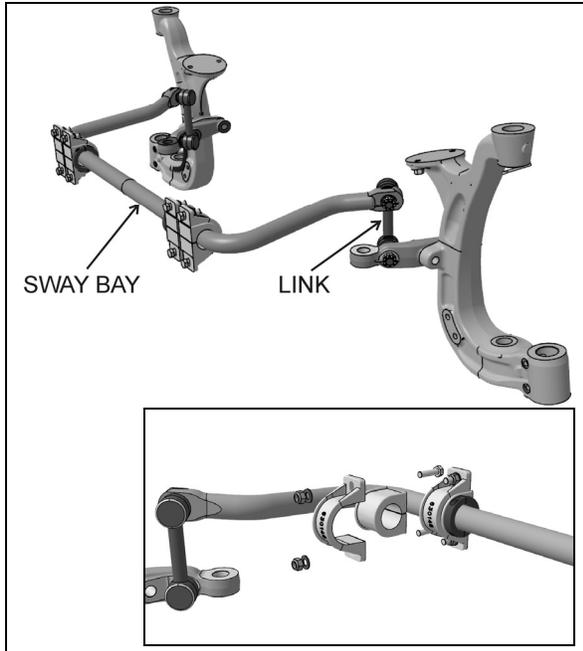

FIGURE 36: SWAY BAR (INDEPENDENT FRONT SUSPENSION) 16138\_C
5. Install the shock absorber as shown in figure 36 with the mounting stud protruding through the hole in the mounting bracket and the shock absorber eyes over the mounting pins. Install the outer washer.